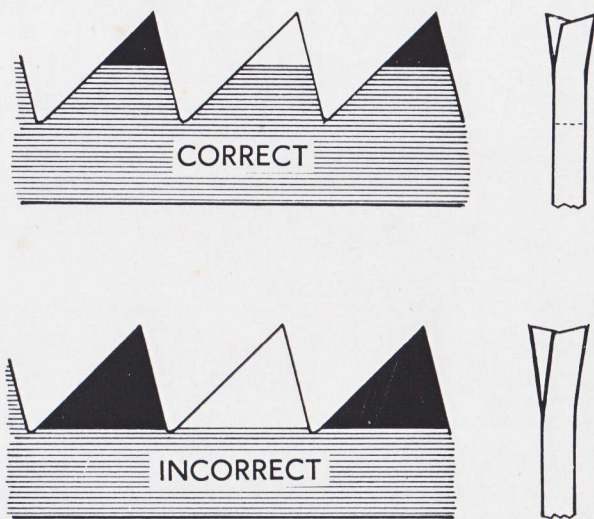

Fig. 12. Correct and incorrect setting.
(1) *Never set teeth too far down.* In other words, do not bend over the whole of the tooth. A half or two-thirds down from the top of the tooth is sufficient. (Fig. 12.) Setting lower down the tooth leads to breakages.